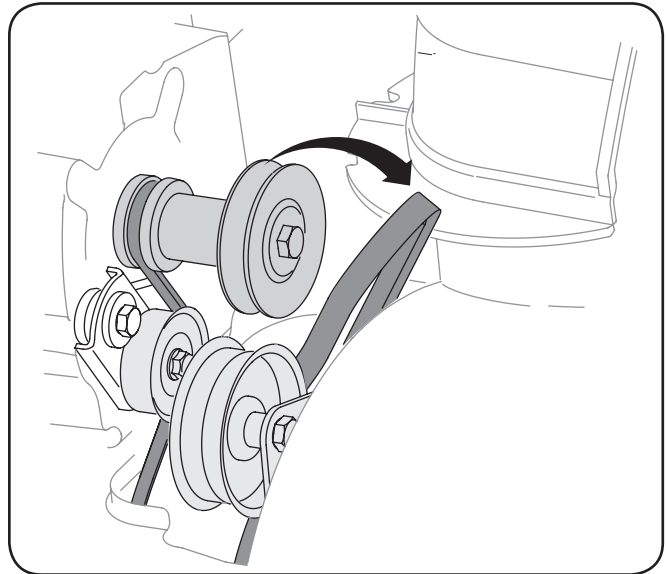

Figure 7-3
3. Roll the auger belt off the engine pulley. See Figure 7-3.